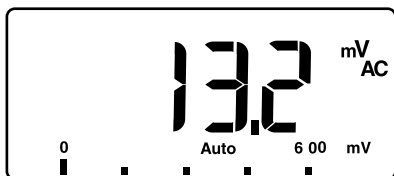

Figure 1. Residual Voltage Reading
*The example in Figure 1 shows a reading of 13.2 millivolts AC which is very close to a zero-volt reading. 1 millivolt is equal to .001 volts or 1/1000th of a volt.*